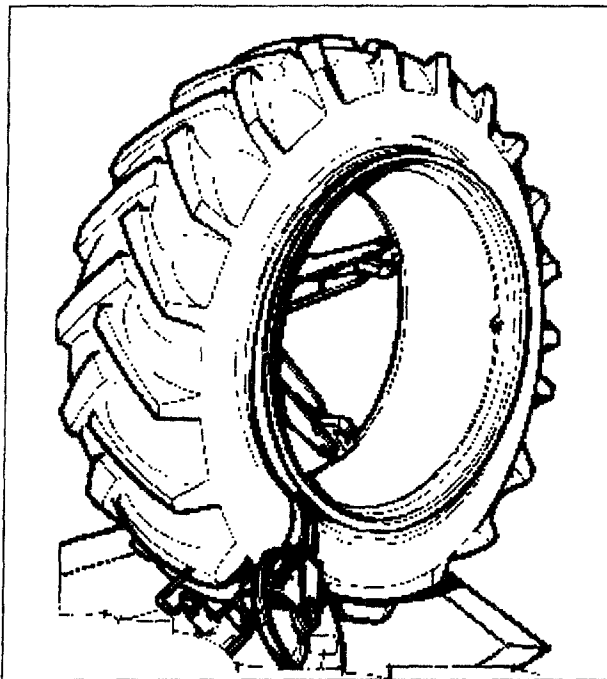

Fig.46
5. Place the hook tool between bead and rim (Fig.46).